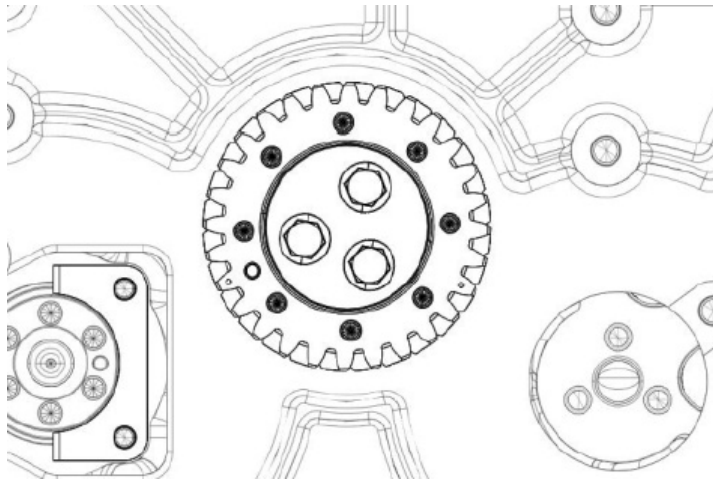

Figure 118.
2. Oil the idler gear (Figure 118) and install onto the engine block, insert the spacers with the bolts and torque the bolts to 52±5 lb-ft.